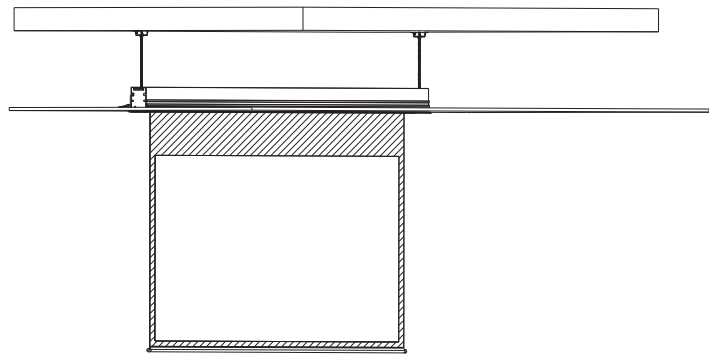

Figure27
11. Installation Completed (figure 27).